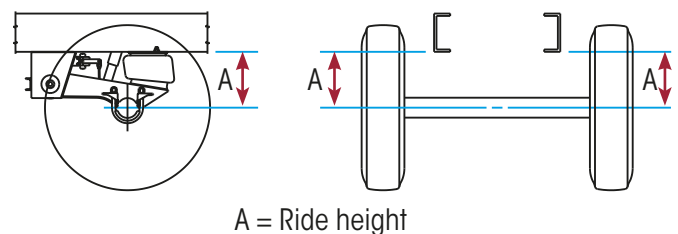

Figure 196: Comparing Side to Side Ride Height
7. Check that the ride height (A) is relatively equal from side to side (Figure 196) with the axle parallel to the trailer frame and the suspension beams parallel to each other.